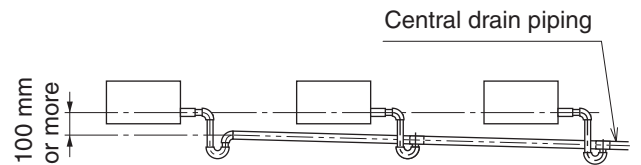
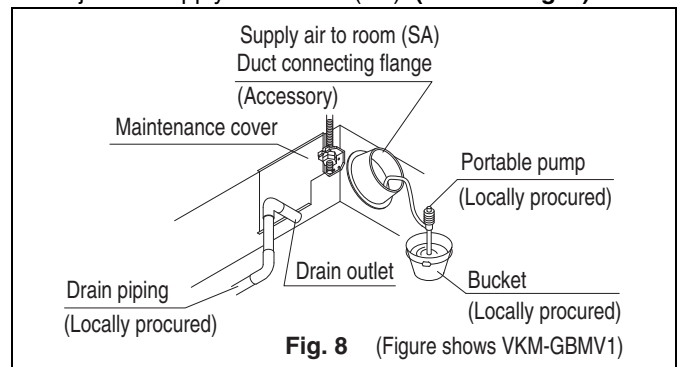

Fig. 7-2 (Install with a downward slope of at least 1/100)
Fig. 8 (Figure shows VKM-GBMV1)
- Keep the drain pipe short and sloping downwards at a gradient of at least 1/100 to prevent air pockets from forming. (Refer to Fig. 7-2)
- If you are using central drain piping, follow the procedure outlined in the figure 7-2.
(2) After piping work is finished, check drainage flows smoothly.
- Test the drainage by pouring around 1000cc of water into the drain pan through the inspection hole by removing the maintenance cover (10 screws) or through the outlet duct joint of supply air to room (SA). (Refer to Fig. 8)